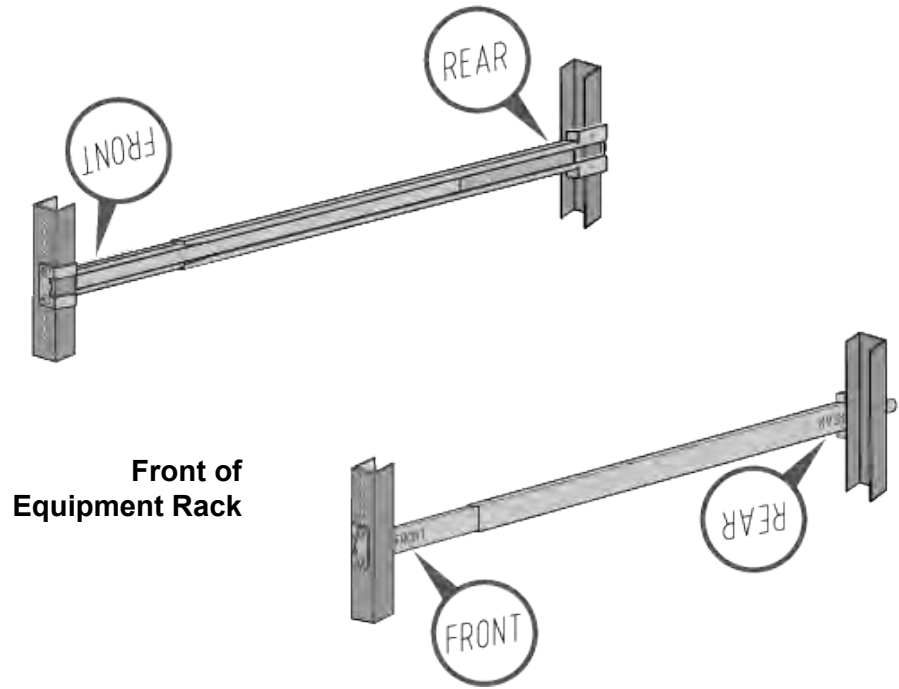

Figure 73. Installing the Outer Rails on the Equipment Rack
2. Attach the outer rails to the equipment rack using the supplied screws. Use four screws per rail. Refer to Figure 73 on page 209. Installing the switch can be easier if you leave the screws slightly loosened now and fully tightened them after the switch is installed.